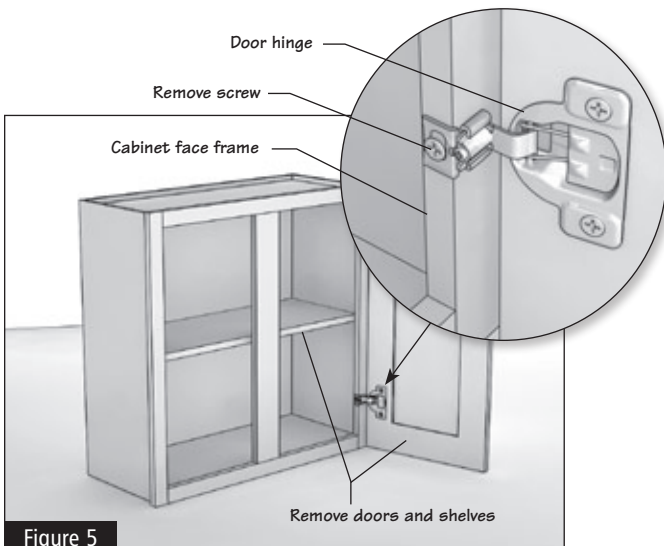

Figure 5
2.1 Remove all shelves and doors. You might want to mark (or carefully stack them in position) for reinstalling later. This will make the cabinets lighter and easier to handle. (Figure 5)